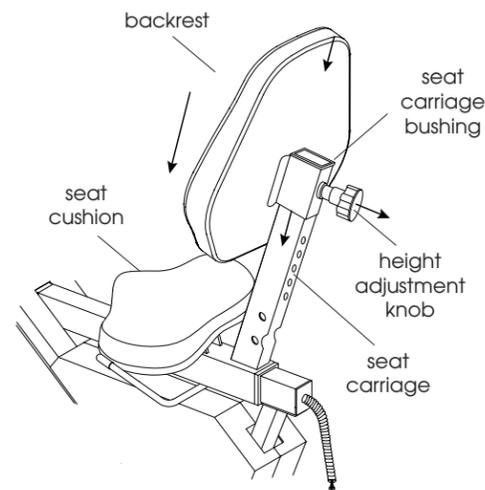

Figure 4c - Install Backrest
- Pull Height Adjustment Knob out and slide Backrest onto Seat Carriage. **Note: Slide the side opposite of the Seat Carriage Bushing on first.** Release Height Adjustment Knob and continue to slide Backrest down until it clicks into an adjustment hole. Turn knob to lock into place, see Figure 4c.